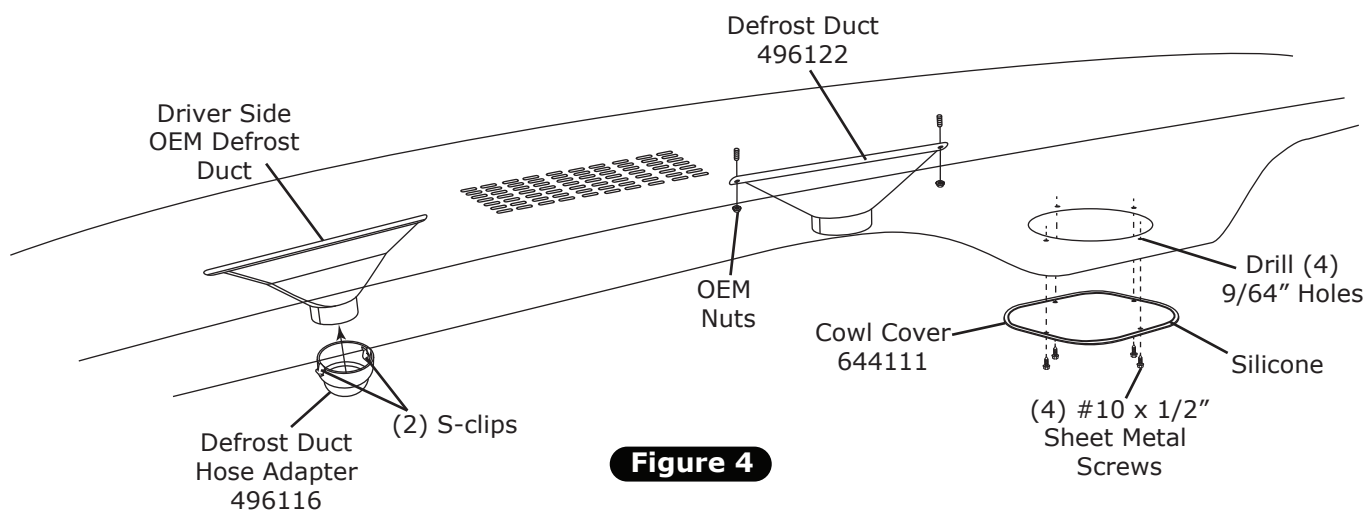

Figure 4
1. Install (2) S-clips onto the defrost duct hose adapter (See Figure 4, below).
2. Install defrost duct hose adapter onto OEM driver side defrost duct as shown in Figure 4, below.
3. Install defrost duct on passenger side using OEM nuts as shown in Figure 4, below.
4. Hold cowl cover under dash and mark the (4) mounting holes.
5. Drill (4) 9/64" mounting holes under dash.
6. Apply a 1/4" bead of silicone around the back side of the cowl cover as shown in Figure 4, below.
7. Secure cowl cover to fresh air hole using (4) #10 x 1/2" sheet metal screws as shown in Figure 4, below.